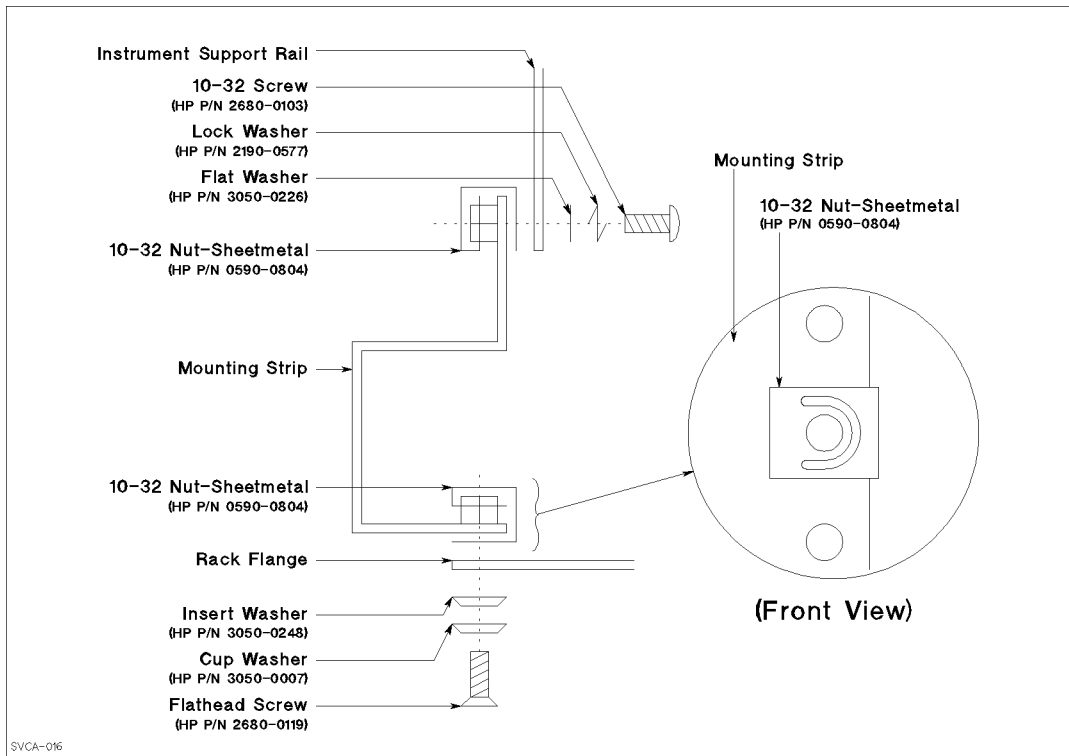

Figure A-6. Section View of Top Left of Cabinet
To install an instrument in the cabinet, refer to Figure A-6 and proceed as follows:
2. Attach two instrument support rails and secure the rails with 10-32 screws as shown in Figure A-6.